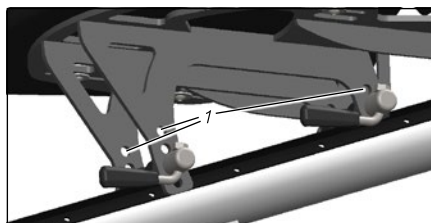

Fig.:8
1. Open and remove the quick release mechanism with the individual fastening components (washer, 2x sliding block, knurled nut). Select the appropriate pair of holes ("Fig.:8").